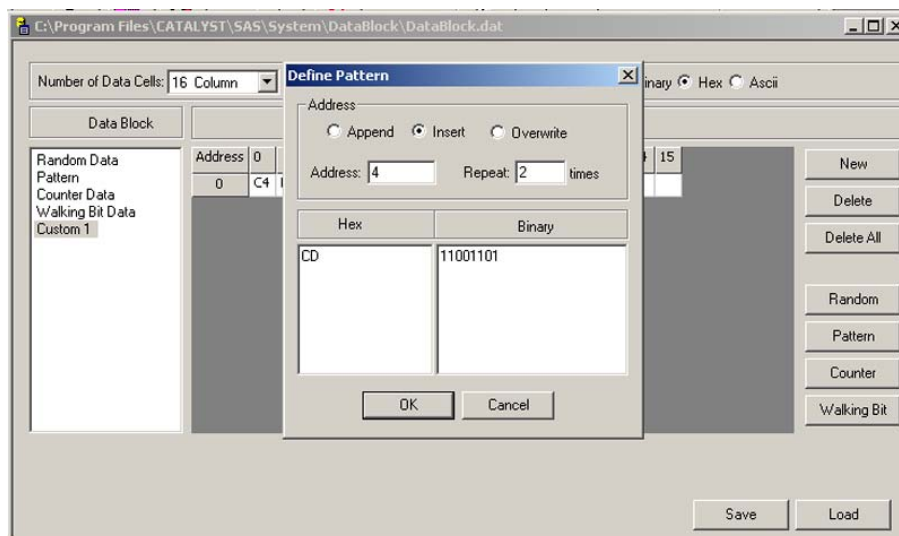

Figure 2.157: Define Your Own Data Pattern
1. Click **Pattern** to open the Define Pattern dialog box as shown in Figure 2.157